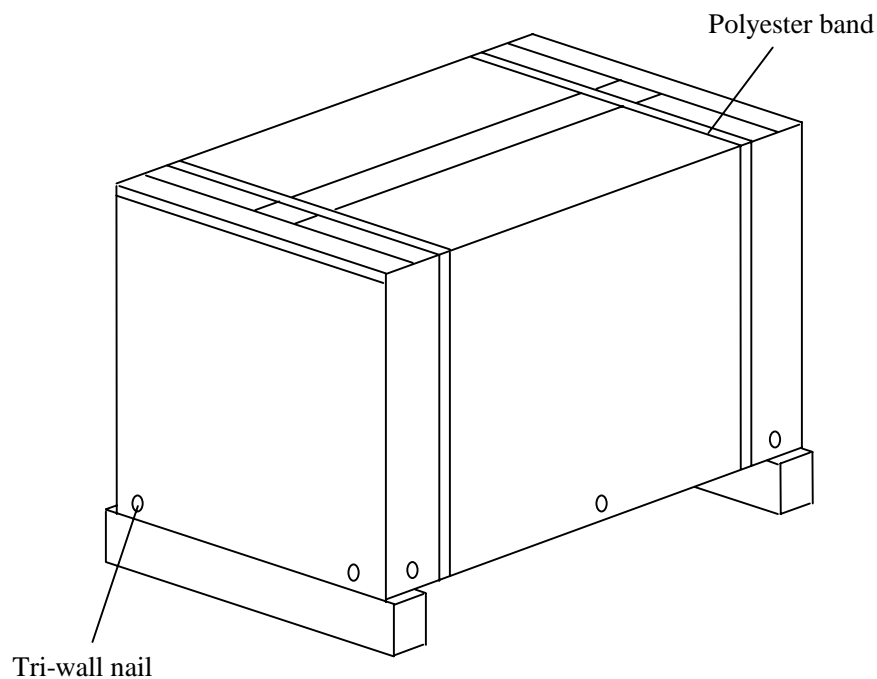

Figure 3.1 Subsystems Packed in an Assembly Package
(1) Figure 3.1 shows the subsystems packed in an assembly package.